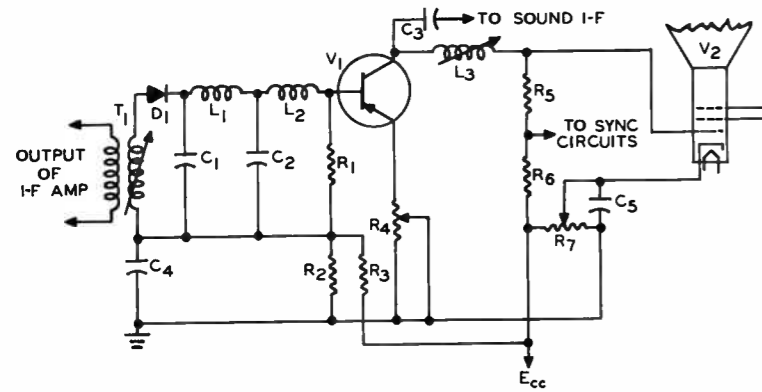

FIGURE 13
Figure 13 shows the circuit of a direct coupled transistor video section. Detector diode D_1 is coupled directly through L_1 and L_2 to the base of the V_1 video amplifier stage. Resistors R_2 and R_3 form the V_1 base bias voltage divider circuit and R_1 is the D_1 diode load resistance. The base bias obtained at the R_2R_3 junction is applied to the V_1 base through R_1 . This configuration prevents the base bias voltage from biasing the detector diode which would cause clipping of the video signal. Capacitor C_4 places the lower end of the T_1 secondary at signal ground potential.
In the video circuits of Figure 13, loss of the dc component is prevented by (A) coupling capacitor C_3 . (B) direct coupling between stages. (C) grounding the negative output of the power supply. (D) employing a video signal which contains ac components only.